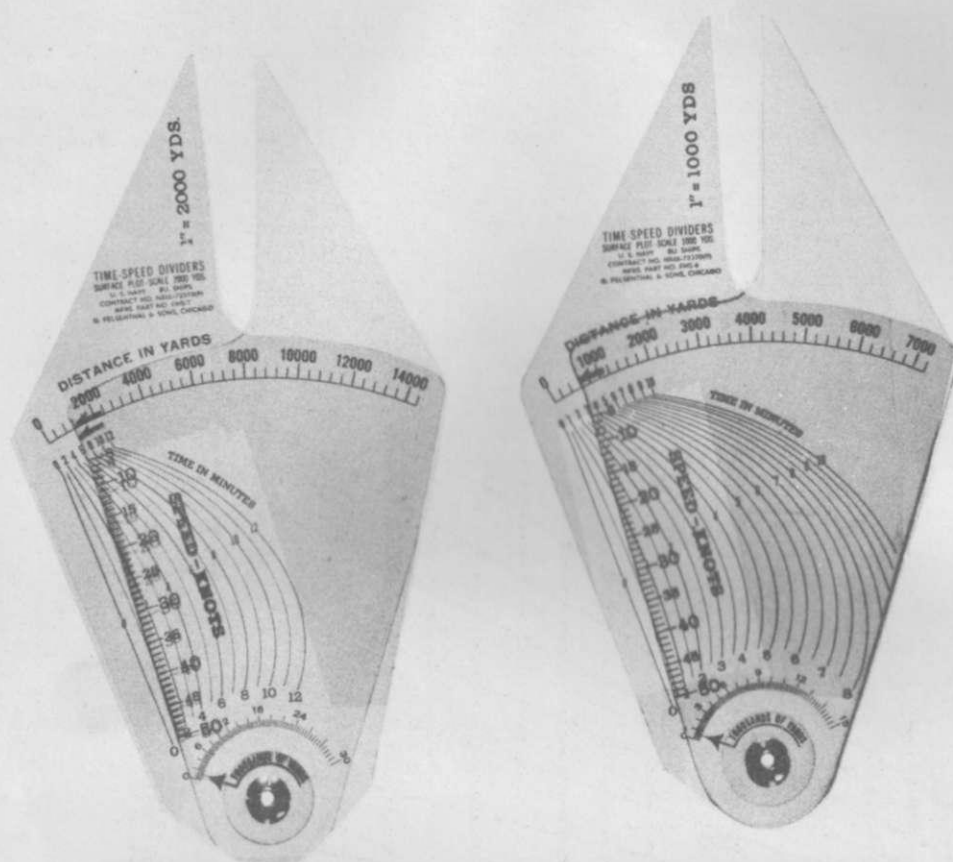

Figure 19
- (b) The Time-Speed Dividers (see Figure 19)